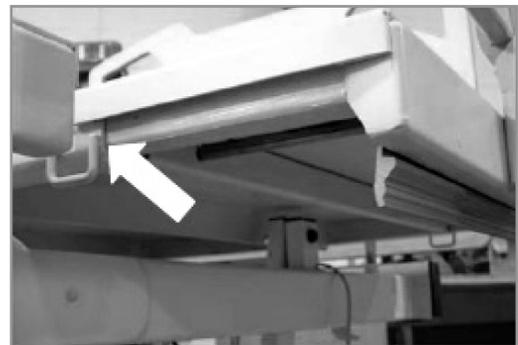

Figure 24
1. Grease Side and Foot Extensions (sample indicated by arrows in Figure 24 and 25).